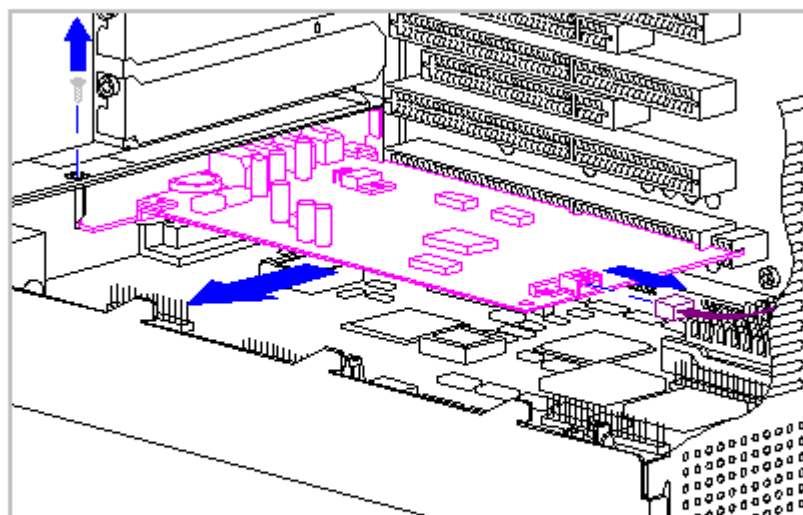

Figure 5-42. Option Card Removal
5. Remove the screw securing the expansion card bracket to the rear of the computer (Figure 5-42) and slide the option card out of its connector on the backplane board.
5. Disconnect the LED cable from its connector on the backplane board (Figure 5-42).